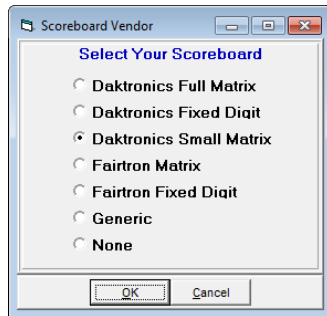

Figure 19: Scoreboard Vendor Selection
3. Go to **Interface > Setup > Scoreboard** (*Figure 19*).